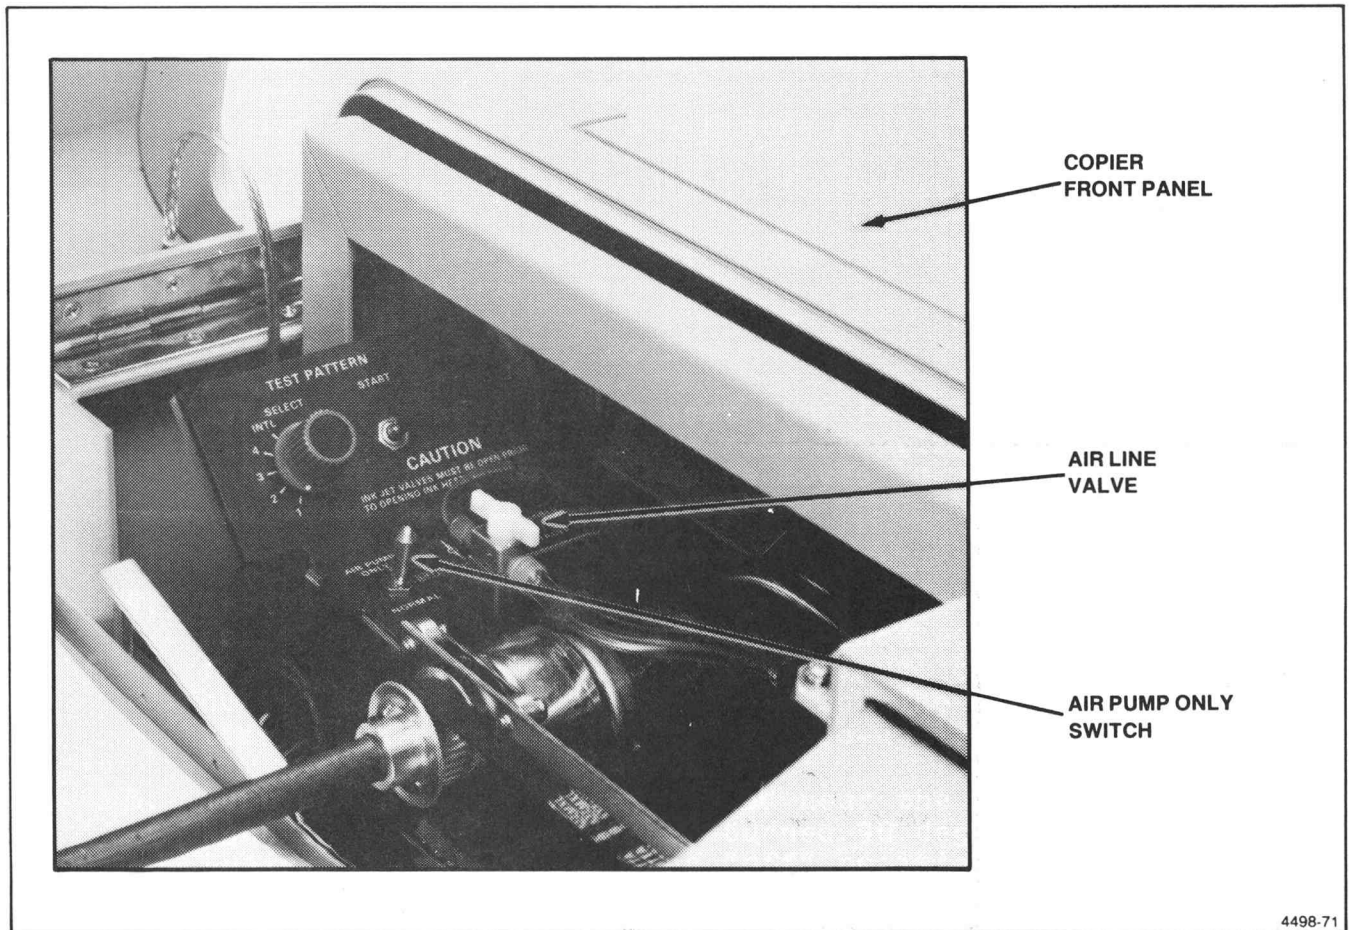

Figure 8-5. Air Pump Switch Location.
4. Set the copier's air pump switch to the AIR PUMP ONLY position. The air pump switch is located near the right front corner of the copier (see Figure 8-5). This does not in itself turn the air pump on. The air pump will turn on when the copier is powered-up later.